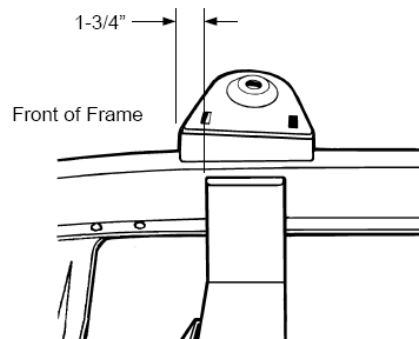

Figure 5- Spring Tower Install
6. Next are the spring towers. They sit on top of the frame rails, and are located with the higher side towards the front as shown in **Figure 5**, (1-3/4" forward of the crossmember). Clamp in place, double check your dimensions, then weld all around, including the gusset flanges on the sides of the rails. For added strength, you can also weld the inside of the gusset flanges.